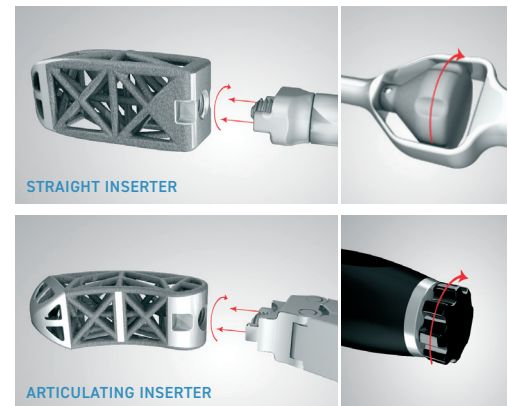

Figure 8
- ▲ Attach the implant to the inserter (Fig. 8). Ensure the prongs are fully seated and no threads are visible.